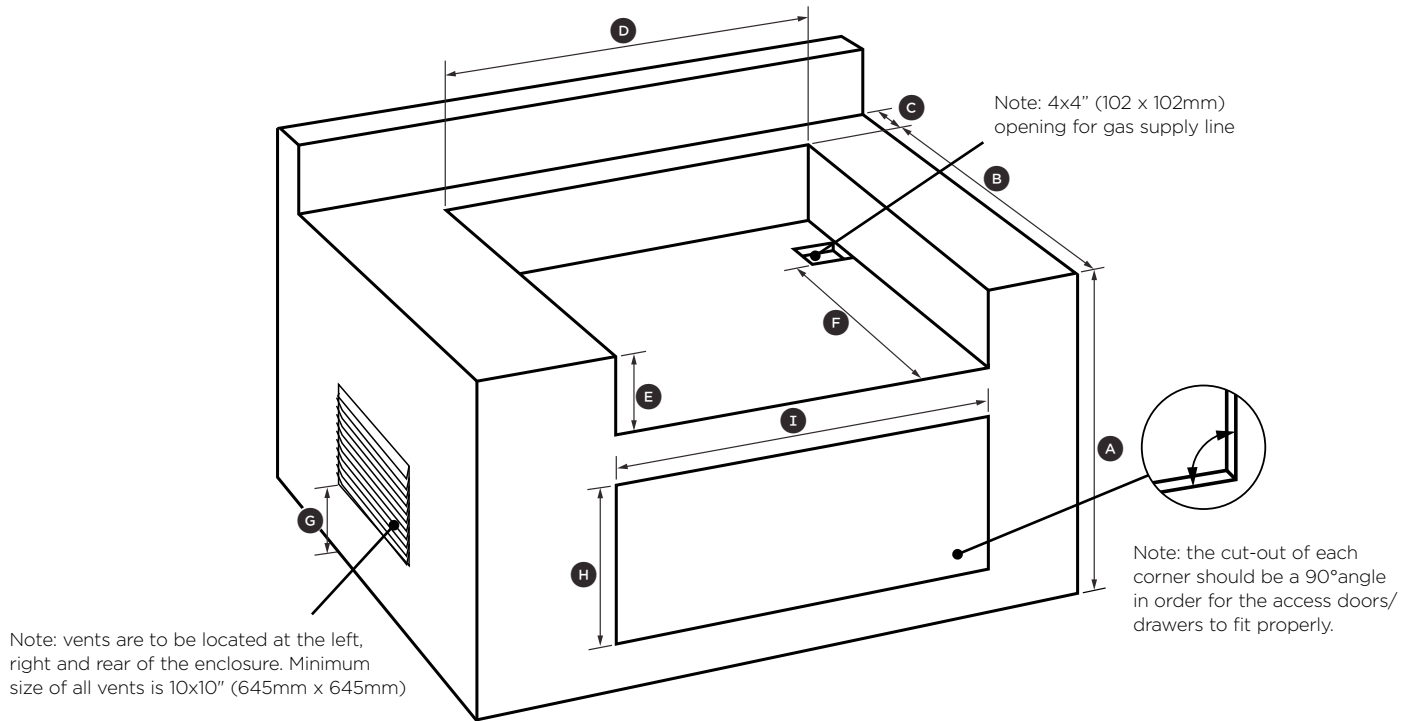
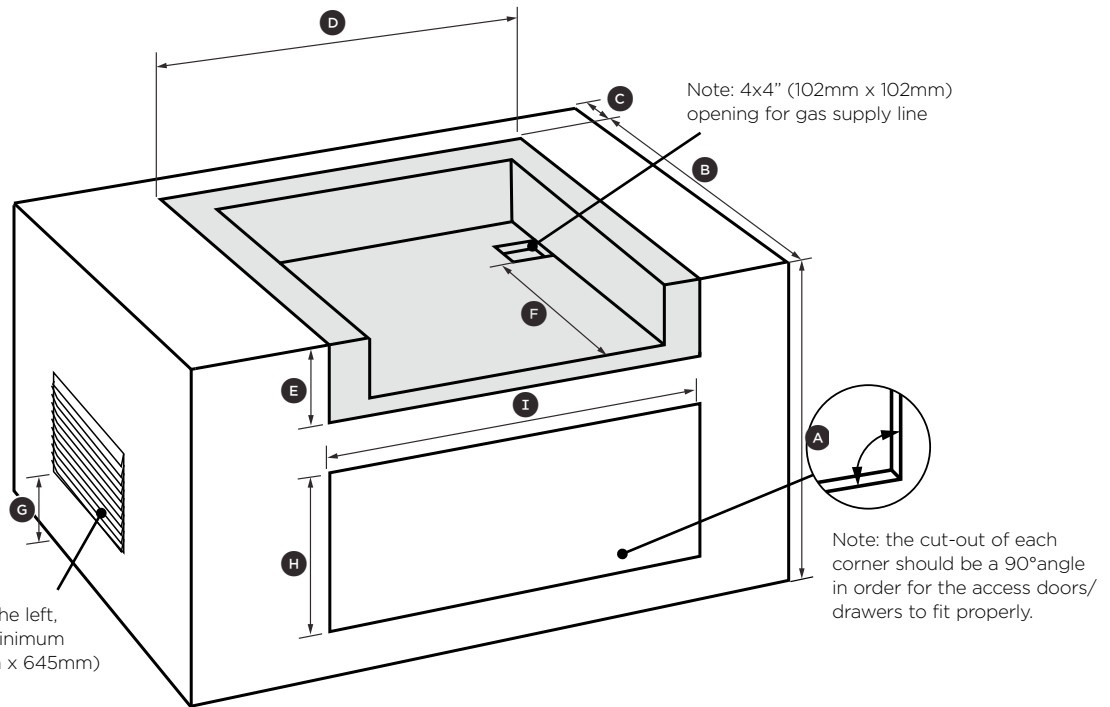

FIG. 05
FIG. 06
The grill is designed for easy placement into built-in masonry enclosures. For non-combustible applications the grill drops into the opening shown in Fig. 05 and hangs from its side flanges. A deck is not required to support it from the bottom. When using the insulated jacket in a combustible enclosure application, see the Fig. 06. The insulation jacket assembly must be supported from the bottom by a ledge on each side and back or a solid deck.
**It is required that a minimum of three 10x10" (645 x 645mm) of ventilation opening be provided for both the left and right sides, as well as the back of enclosure (Fig. 05), in order to safely dissipate unburned gas vapors in the event of a gas supply leak.**
If the grill is to be placed into a combustible enclosure, an approved insulated jacket is necessary. Insulated jackets are available from your dealer. Use only the DCS insulated jacket which has specifically been designed and tested for this purpose. Review the detail drawing shown (Fig. 06) and take into account the provisions shown for gas line hook-up clearance in the right rear corner. It is required that ventilation holes are provided in the enclosure to eliminate the potential build-up of gas in the event of a gas leak. The supporting ledges or deck must be level and flat and strong enough to support the grill and insulated jacket. The counter should also be level.